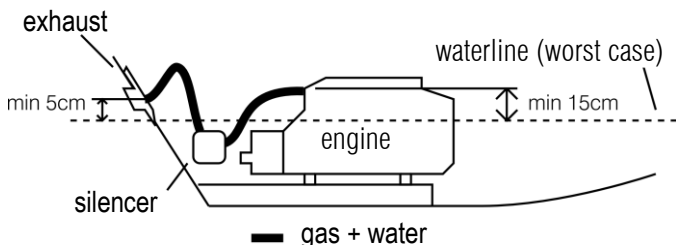

Figure 27 - Engine exhaust in configuration A
1. Case A, discharge at more than 15 cm from the waterline – Figure 27 below. In this case it is advisable to install a silencer suitably sized to prevent the return of waste water into the engine and draw the exhaust line with a gooseneck shape: